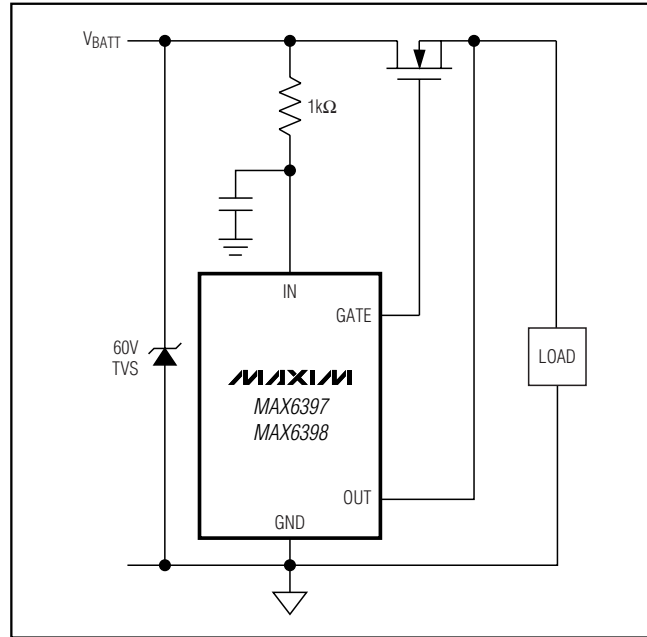

Figure 9. Protecting the MAX6397/MAX6398 Input from High-Voltage Transients
- Add a zener diode or transient voltage suppressor (TVS) rated below the IN absolute maximum rating (Figure 9).